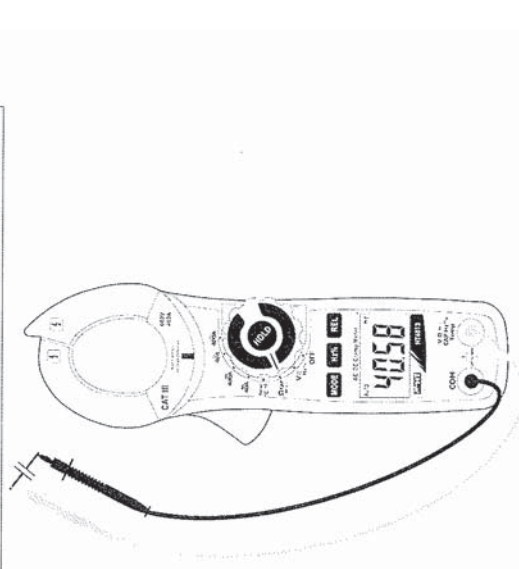

Fig. 6. Use of the clamp for capacitance measurement
4. Position the test leads in the desired points of the circuit to be measured (Fig. 6). The display shows the value of capacitance.